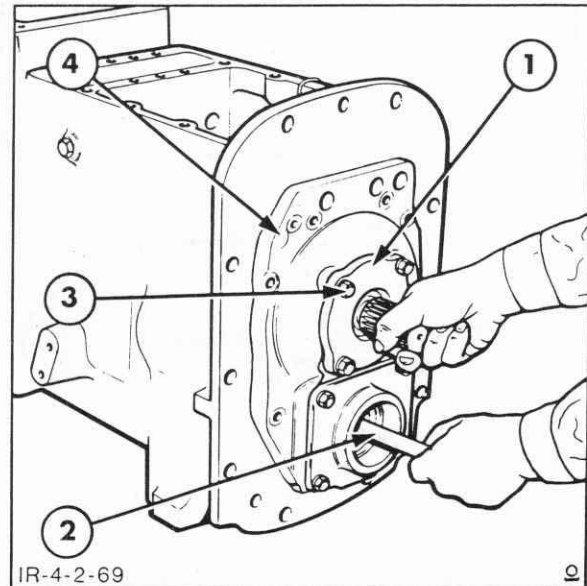

Figure 4-164
12. Insert a suitable rod through the countershaft bearing cap hole into the countershaft, Figure 4-164. Lift the countershaft while positioning the rear cover plate onto the transmission case, Figure 4-164.